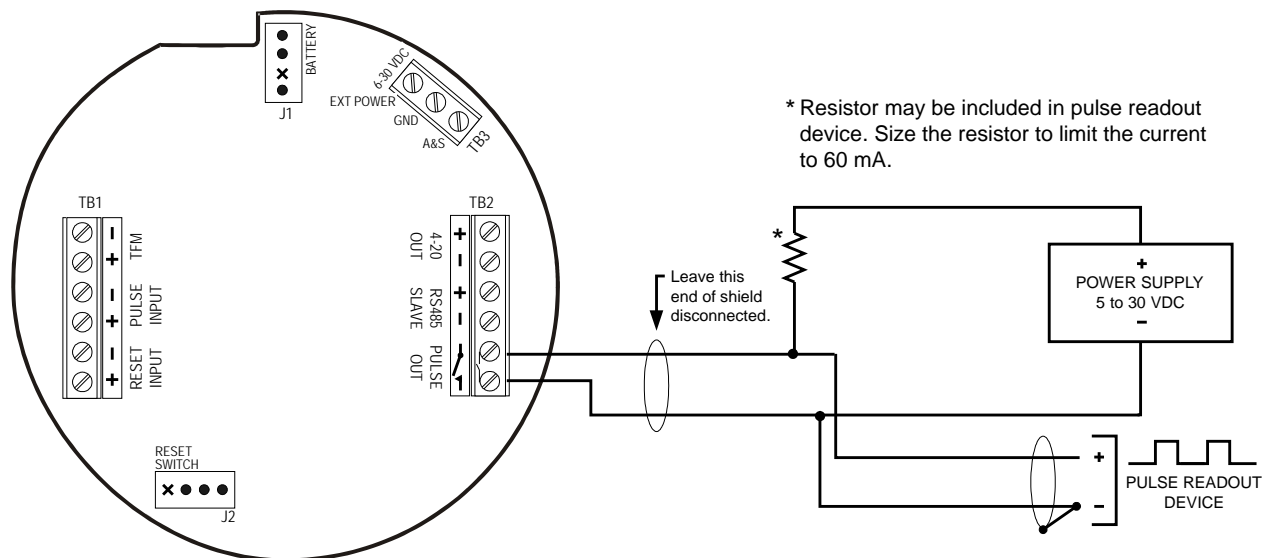

Figure 2.13—Pulse output wiring
8. Connect wiring for output signals, if appropriate. See Figure 2.13, page 24, through Figure 2.17, page 27.
The pulse output is a solid-state relay. Each pulse represents a user-defined volume. Because the circuit is isolated, it can be used in conjunction with any other feature on the MC-III EXP. A two-conductor cable from the MC-III EXP to the remote location is required (Figure 2.13). The maximum current rating of the pulse output circuit is 60 mA at 30 VDC.